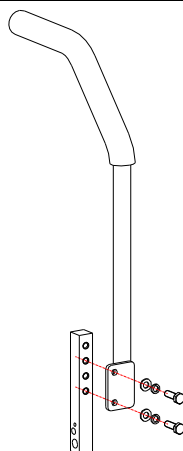

FIG 2 Right Motion Control Lever Assembly
- b) Place the right control lever to the outside of the control arm shaft, insert the bolts into the holes with flat washers and spring washers and tighten them. (See Figure 2)